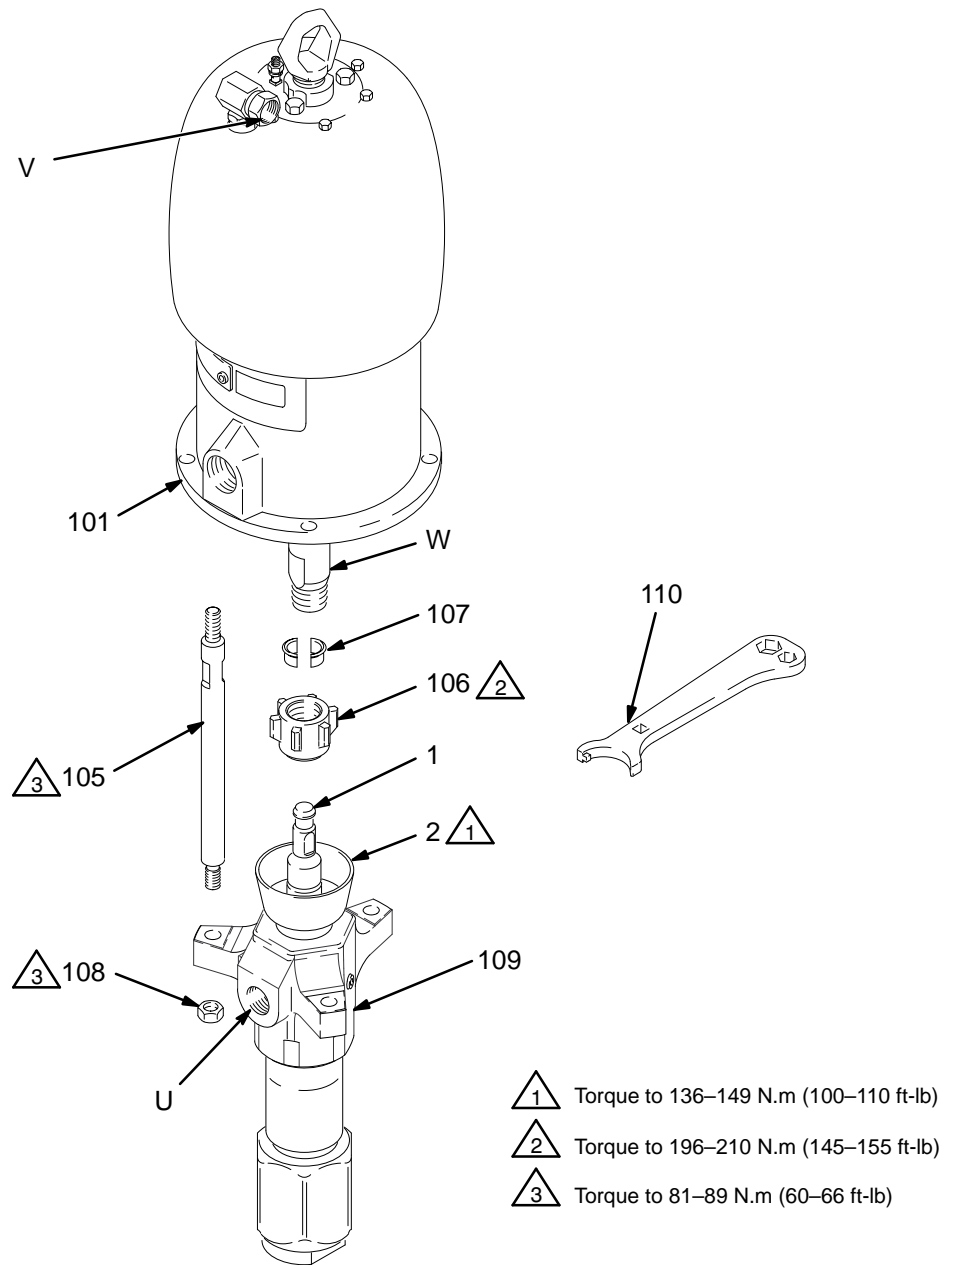

Fig. 4
5. Using an adjustable wrench (or hammer and punch), unscrew the coupling nut (106) from the motor shaft (W). Do not lose or drop the coupling collars (107). See Fig. 4.
6. Hold the tie rod flats with a wrench to keep the rods from turning. Unscrew the nuts (108) from the tie rods (105). Carefully remove the displacement pump (109) from the motor (101).
1. Make sure the coupling nut (106) and the coupling collars (107) are in place on the displacement rod (1). See Fig. 4.
2. Use at least two people to hold the displacement pump while another reconnects it to the motor (see the **CAUTION** at left). Orient the pump's fluid outlet (U) to the air inlet (V) as was noted in step 4 under **Disconnecting the Displacement Pump**. Position the displacement pump (109) on the tie rods (105).
3. Screw the nuts (108) onto the tie rods (105) and torque to 81–89 N.m (60–66 ft-lb).
4. Screw the coupling nut onto the motor shaft (W) loosely. Hold the motor shaft flats with a wrench to keep it from turning. Use an adjustable wrench to tighten the coupling nut. Torque to 196–210 N.m (145–155 ft-lb).
5. Reconnect all hoses. Reconnect the ground wire if it was disconnected. Fill the packing nut (2) 1/3 full of Graco Throat Seal Liquid or compatible solvent.